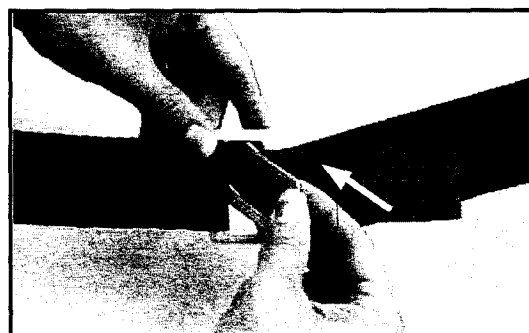

Figure 11 - Opening the Buckle
2. To open the buckle, first loosen the restraint as in Step 1, then turn the three-bar buckle at an angle and pass it downward through the open space in the two-bar buckle (Figure 11).